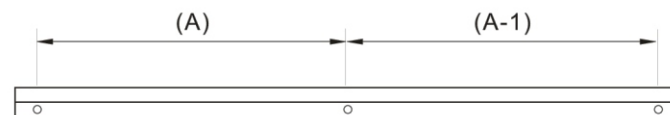

Fig. 1
- 1.2 After selecting the location of the mirror cabinet, check whether the wall is solid, measure the distance of the holes (A, A-1) in the aluminum alloy bar with a tape measure and mark it on the wall with a pencil (Fig. 1).